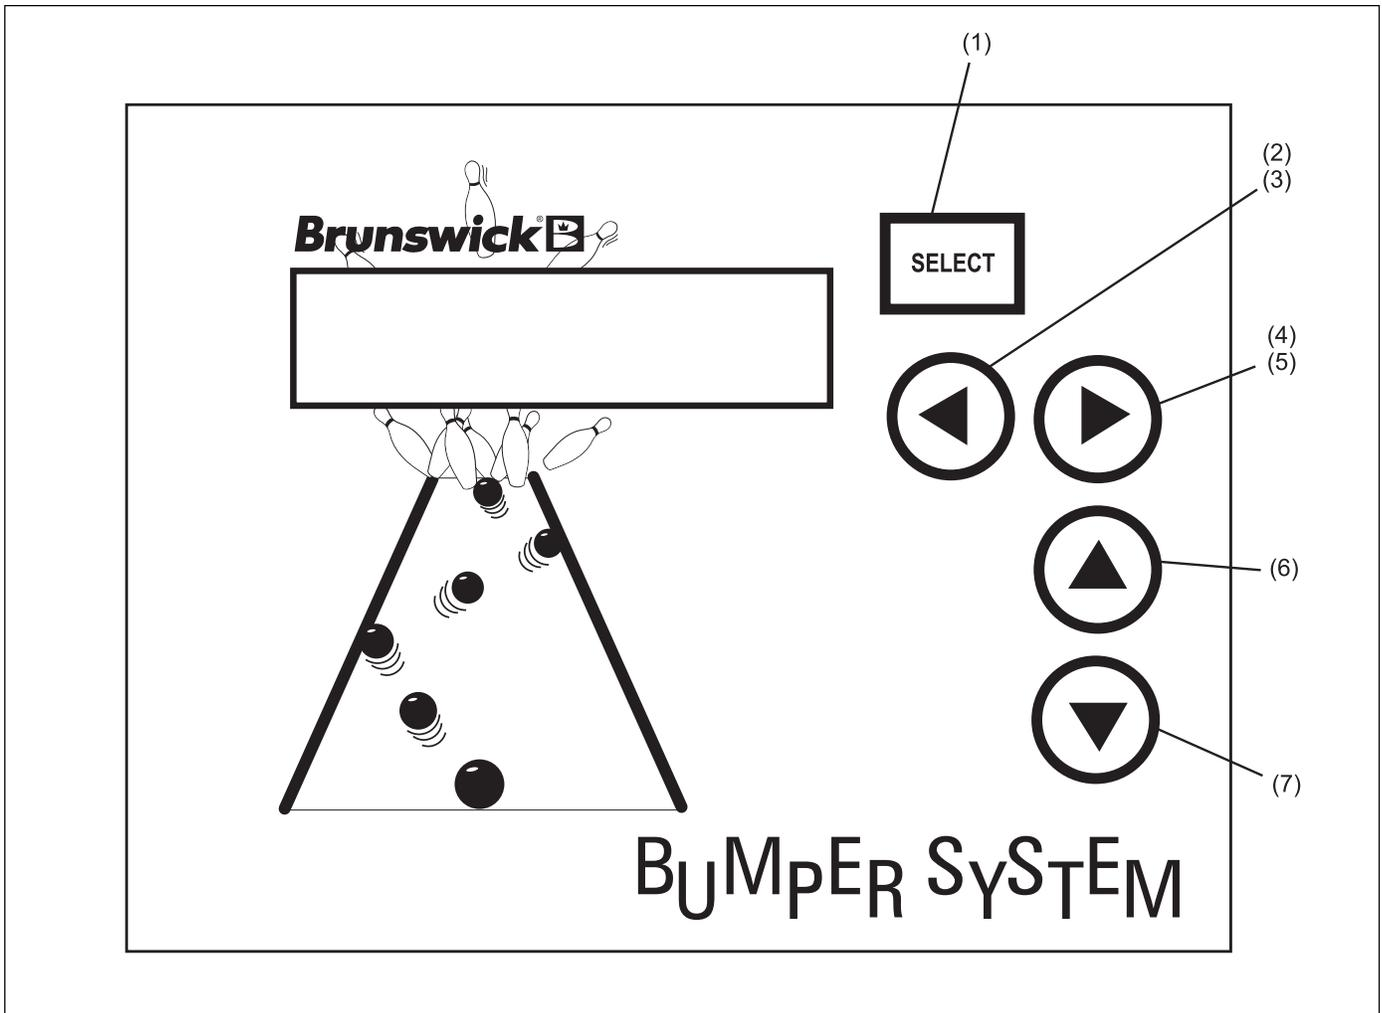

Figure 9. System Controller - Stand Alone Configuration
1. Place toggle switch on rear of unit up (ON) position. Refer to *Figure 9* for switch/button locations.